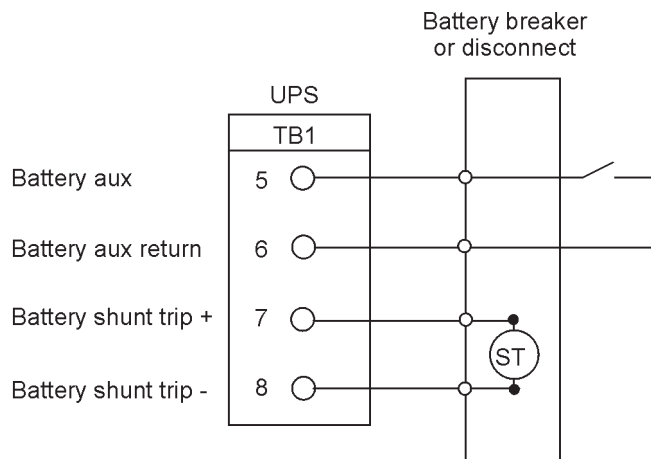

Figure 4-11. Typical battery interface connection
5. To locate the appropriate terminals and review the wiring and termination requirements, see Table 4-1 on page 47, and Figure 4-9 through Figure 4-11.
7. To locate the appropriate terminals and review the wiring and termination requirements, see Table 4-1 on page 48, and Figure 4-9 through Figure 4-11.